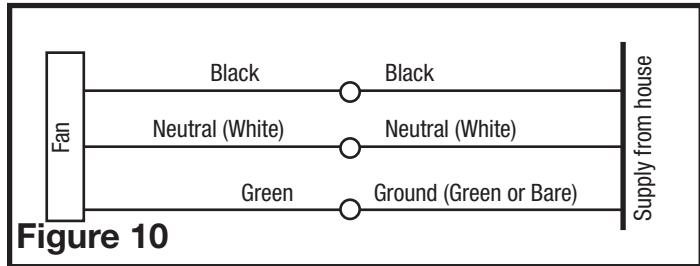

Figure 10
3. From where you have chosen to access the fan's junction box, connect the White wire from the house to the White wire from the fan's receptacle. Connect the Black wire from the wall switch to the Black wire from the fan's receptacle. Connect the ground wire from the house to the Green wire from the fan's receptacle (**Figure 10**). Use approved methods for all connections.